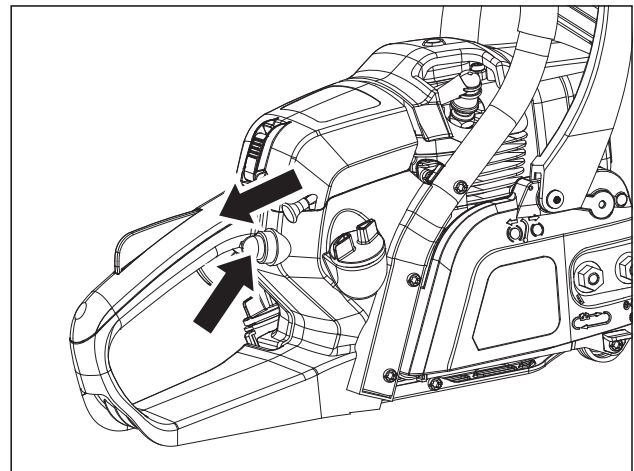

Fig. 7
2. Give 6-10 slow, but firm pushes on the primer bulb until fuel comes into the primer bulb (Fig.7).
3. Pull choke knob all the way out to FULL CHOKE position (Fig.7).